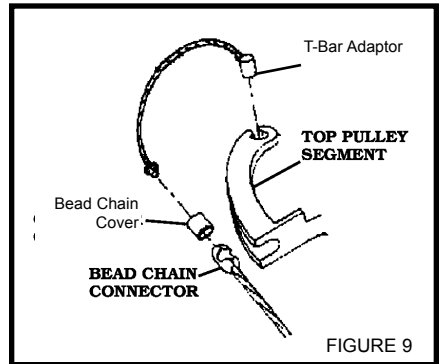

FIGURE 9
3. Attach a **BEAD CHAIN CONNECTOR** onto the **CABLE ASSEMBLY**. **Figure 9**